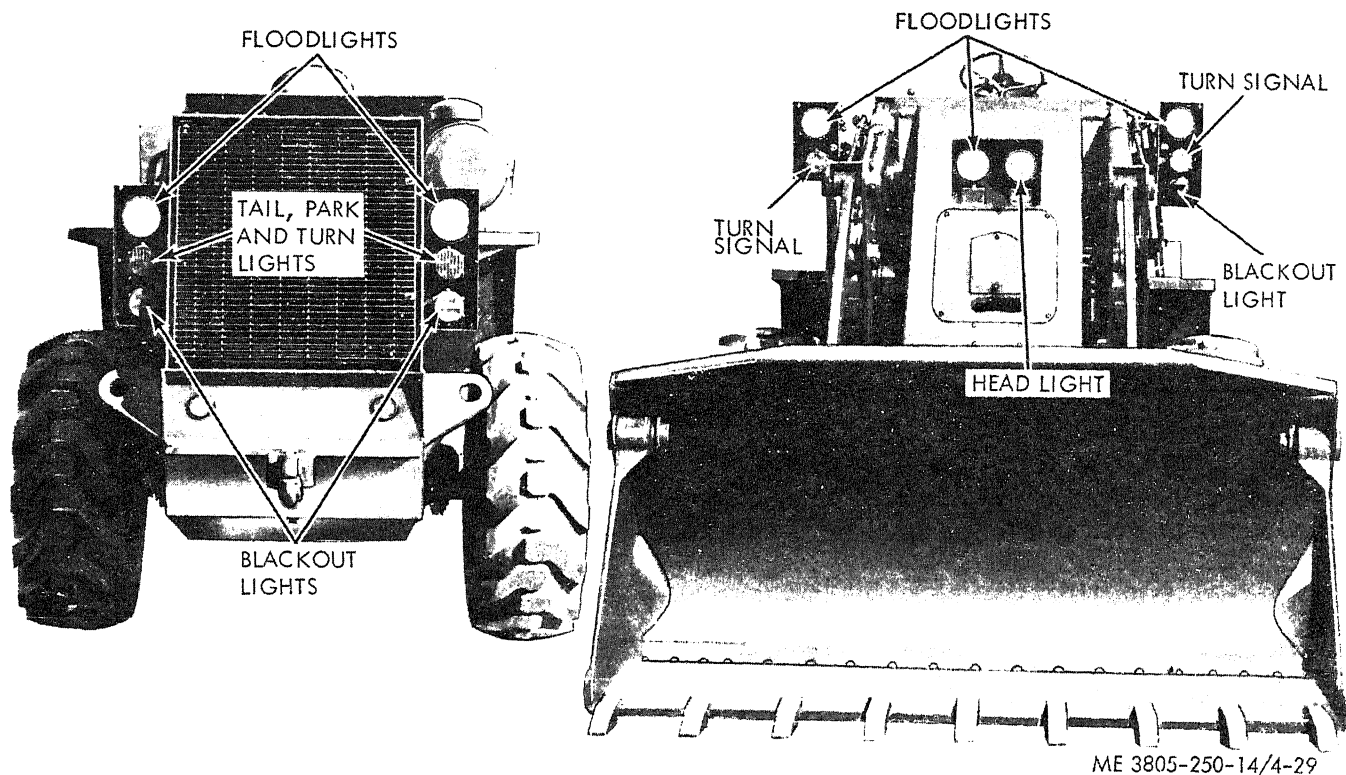

Figure 4-29. Loader exterior lights.
b. Removal. Refer to figure 4-29.
(1) Turn the master switch to the off position and disconnect battery ground cable.
(2) Disconnect wires from lights to be removed.
(3) To remove head light, remove nut and washer securing light to its mounting bracket.
(4) To remove front flood lights, remove nut and washer, and remove the light from its mounting bracket.
(5) To remove front park and turn lights, remove two screws and lockwashers securing the light to the bracket.
(6) To remove front black-out lights, remove nut, washer, and bearing washer.
(7) To remove rear flood lights, remove nut and washer.
(8) To remove rear stop, tail, and signal lamp assembly, remove two screws and lockwashers.
(9) To remove rear black-out lights, remove screw and lockwasher.